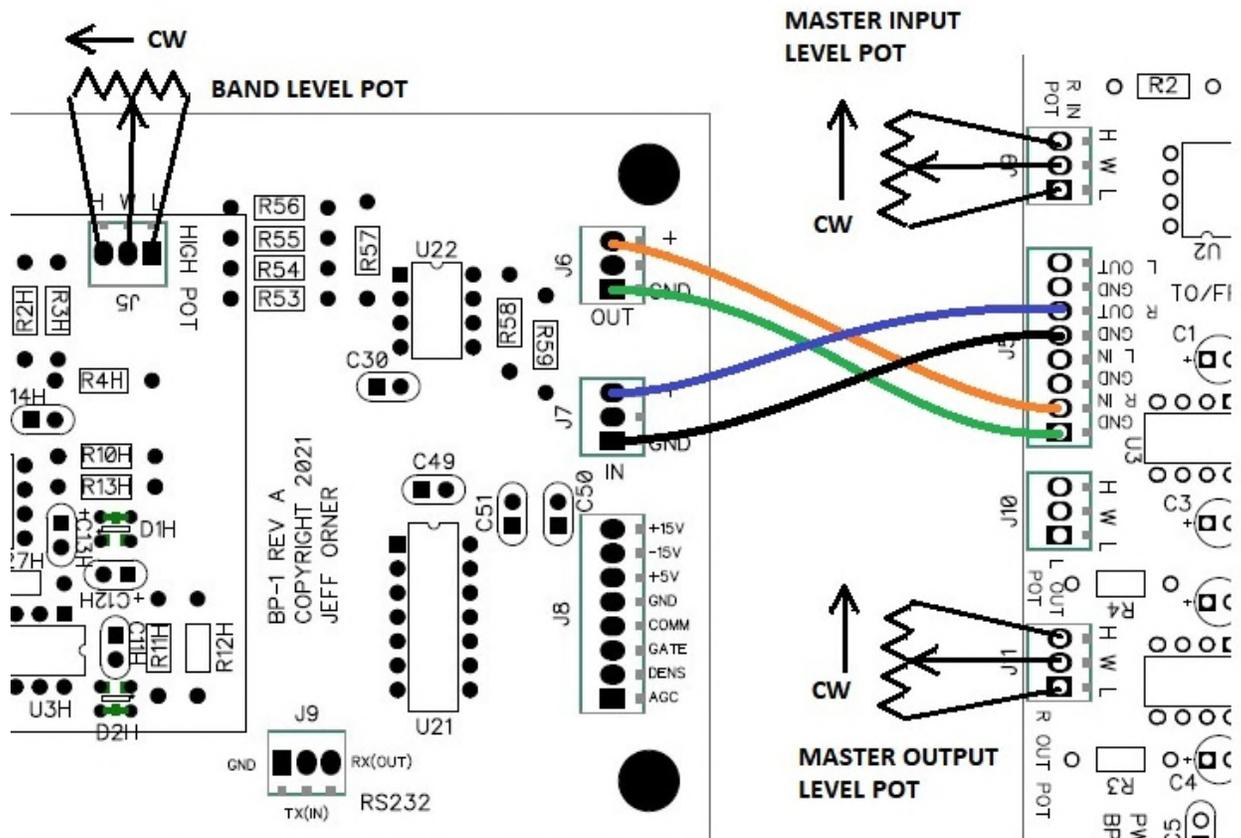

Figure 2
- The audio inputs and outputs connect directly from the BP1 3 terminal blocks directly to the appropriate inputs and outputs on the MB1. Shown is the right channel; the left is connected similarly. The band pot connection is shown with the pot rotation. In all cases "H" is the high or clockwise side of the pot, "L" is counterclockwise and "W" is the wiper. If using dual gang pots the other channel connects to the adjacent section in the same manner. See Figure 2.